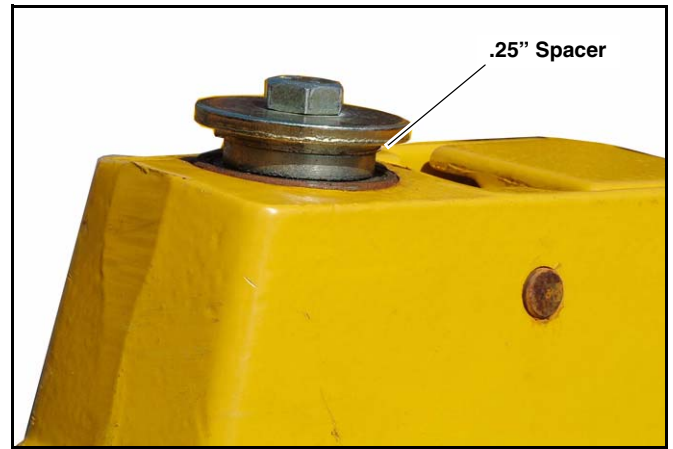

Fig. 3-8
8. If one side of the deck is more than .25" higher than the other side, lower the high side of the deck by transferring the .25" gauge wheel spacer from under the gauge wheel fork bearing to the top side. (Fig. 3-8 and 3-11)